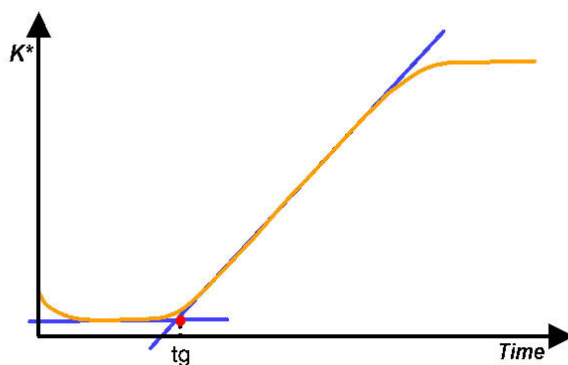

Figure 10 : K* represents viscosity in a liquid state, consistency in « paste » state and its rigidity in solid state.
- Method of the tangents on the consistency evolution (reactive resins) - cf. figure 10